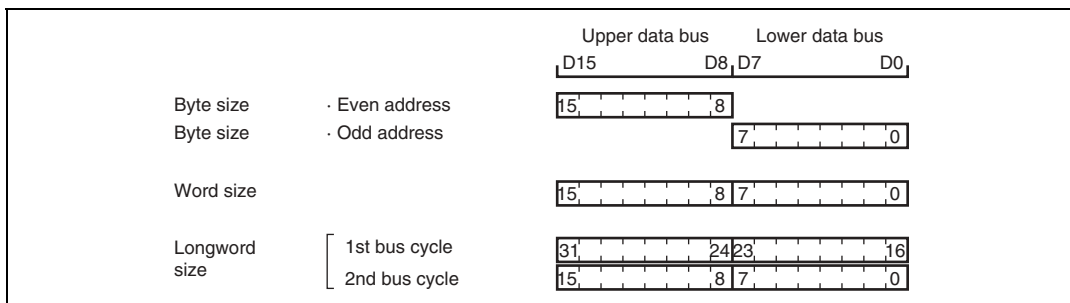

Figure 6.4 Access Sizes and Data Alignment Control (16-bit Access Space)
(2) 16-Bit Access Space: Figure 6.4 illustrates data alignment control for the 16-bit access space. With the 16-bit access space, the upper data bus (D15 to D8/AD15 to AD8) and lower data bus (D7 to D0/AD7 to AD0) are used for accesses. The amount of data that can be accessed at one time is one byte or one word, and a longword access is executed as two word accesses.